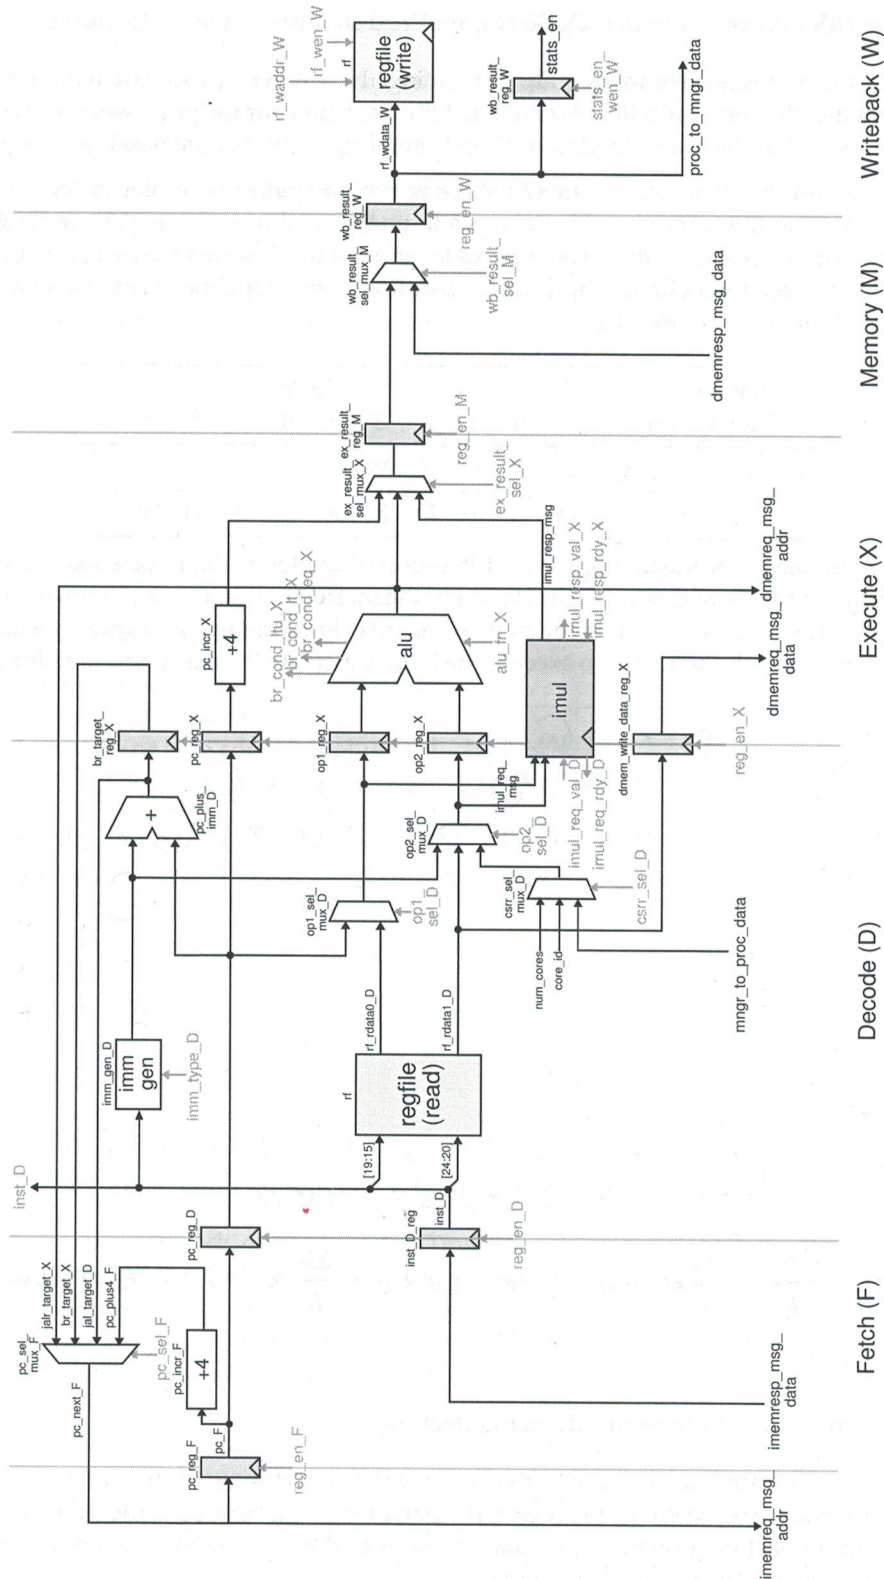

Figure 1: TinyRV2 Processor with Single-Cycle Integer Multiplier Datapath
Figure 1 shows the datapath diagram of the TinyRV2 processor integrated with a single-cycle integer multiplier unit. The multiplier unit exists in the execute (X) stage of the datapath in parallel to the ALU unit as shown. Spend some time studying this datapath to understand how the single-cycle integer multiplier affects the structural, data, and control hazards in the pipeline. Example below shows the execution of a multiplication operation in this pipeline.